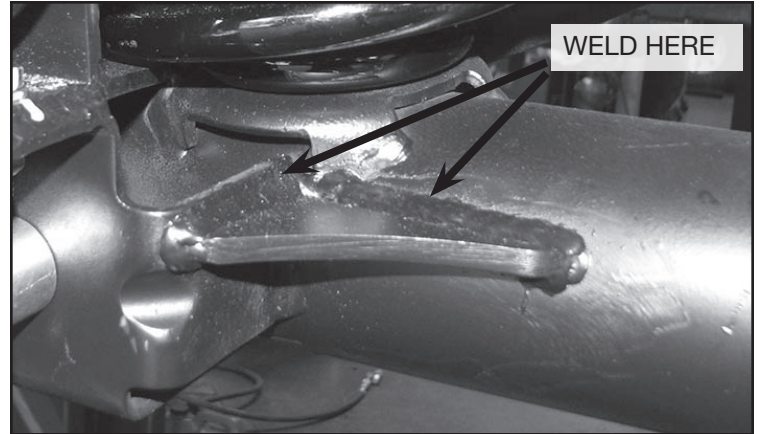

FIGURE 13 - STEP 14
11. Jack up the rear end of the vehicle and support the frame rails just in front of the rear bumper with jack stands. **NEVER WORK UNDER AN UNSUPPORTED VEHICLE!** Remove the rear tires. Support the rear axle. Do not allow to hang freely. Remove the factory shocks and rear sway bar end links and discard. Disconnect the brake lines from the frame and save hardware. Remove the plastic clips that hold the ABS lines to the frame and at the rear upper link arm pockets. Do not damage the clips, they will be reused. Remove the (2) nuts attaching the factory E-brake cable from the body and save.
14. Locate FT50362 Gusset, position it onto the axle and the factory track bar mount as shown in photo. Weld the gusset on the two sides. **SEE FIGURE 13**